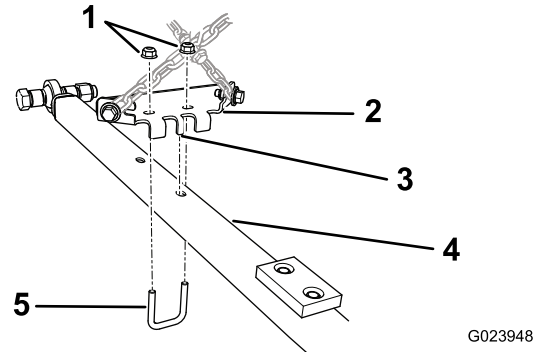

Figure 7
1. Align the center tab on the drawbar bracket to the hole toward the rear of the drawbar (Figure 7).